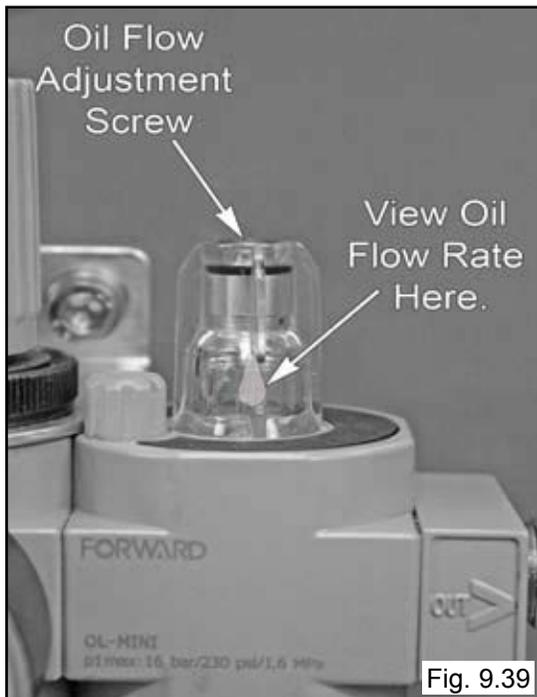

Fig. 9.39
4. The Oiler is adjusted by turning the Small Screw located on top of the Oil View Glass. (See Fig. 9.39)